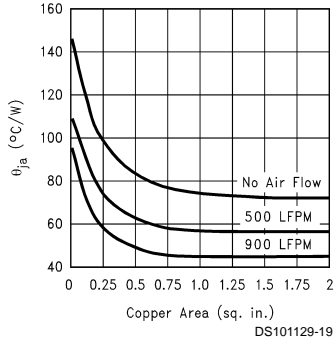

FIGURE 5.  $\theta_{JA}$  vs Copper(1 Ounce) Area for SOT-223 package
*Figure 5* shows a curve for the  $\theta_{JA}$  of SOT-223 package for different copper area sizes, using a typical PCB with 1 ounce copper and no solder mask over the copper area for heat sinking.